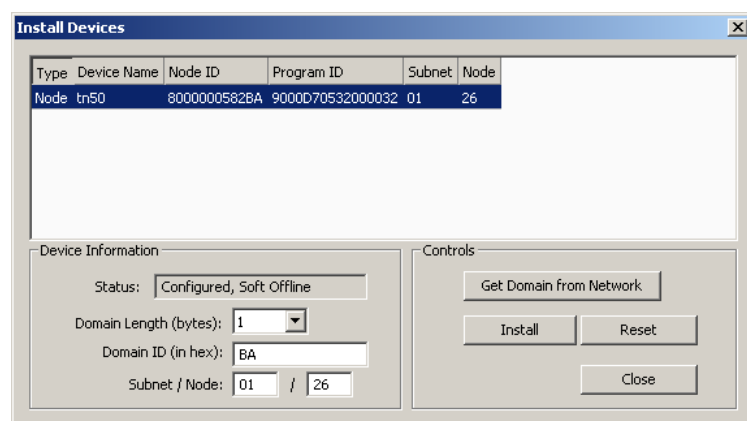

Figure 153: Install devices dialog.
5. Click the **Install** button. This opens the **Install Devices** dialog as shown in Figure 153.